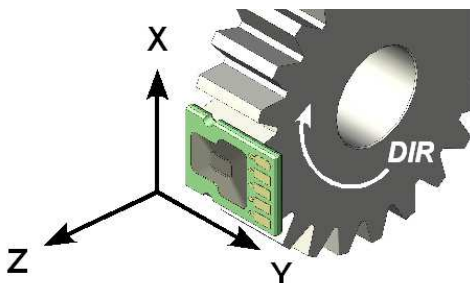

Fig. 1 Coordinate system of encoder.
- Airgap** Distance between sensor and gear in Z-direction. See Fig. 1.